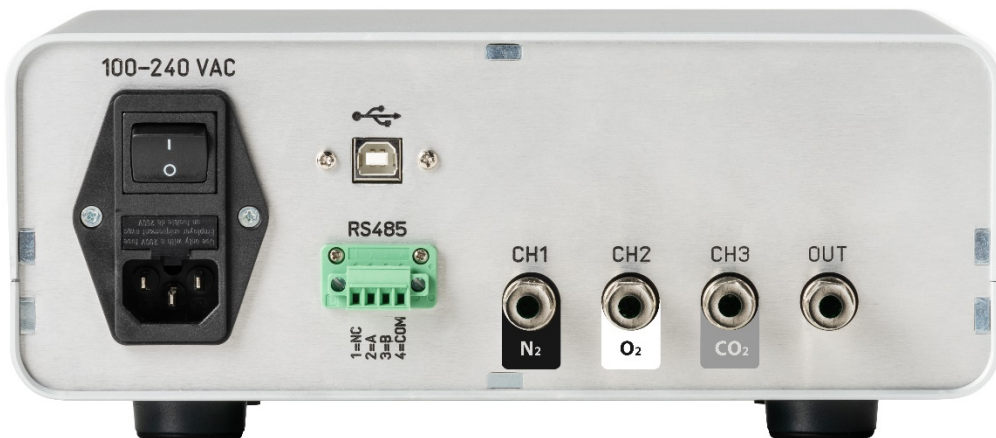

Figure 3-6
4. **Gas Blender Inlets** - Valves must be positioned at a distance of 50 cm from the Gas Blender inlets to secure a proper working of the instrument. For this purpose, three 6mm diameter tubes 50 cm long, on different colors based on the gas type, are provided in the package. Take the 50 cm long tube and connect one end with the valve. Then connect the other end to the instrument inlet with same color, positioned on the Gas Blender rear panel Figure 3-6 his procedure must be repeated for each gas cylinder in use.